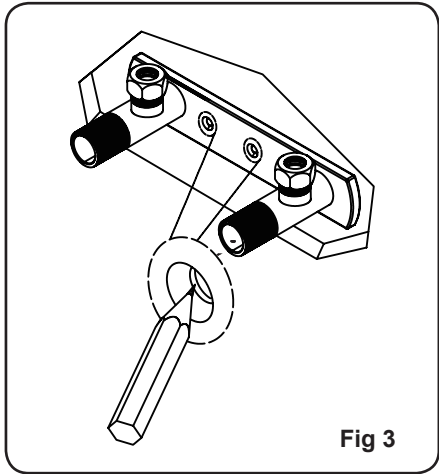
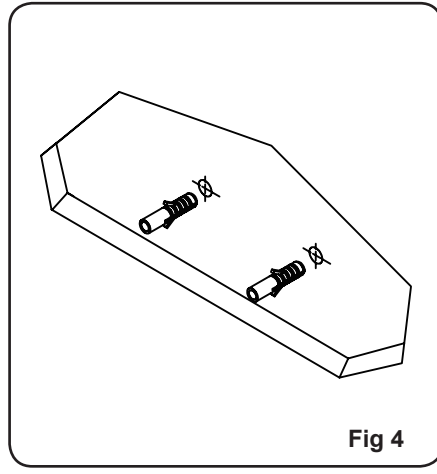

Fig 3
Fig 4
5. Arrange the pipework so that the hot water is connected from the left and the cold water is connected from the right, ensure sufficient pipe length, so that the pipe end insert into the elbow a minimum of 10mm. See Fig 3.
7. Hold the Elbow with Mounting Plate(2) into the position of cavity and mark the screw holes, remove the Elbow with Mounting Plate(2), drill the holes and insert wall Plugs(6). See Fig 3 & Fig 4.